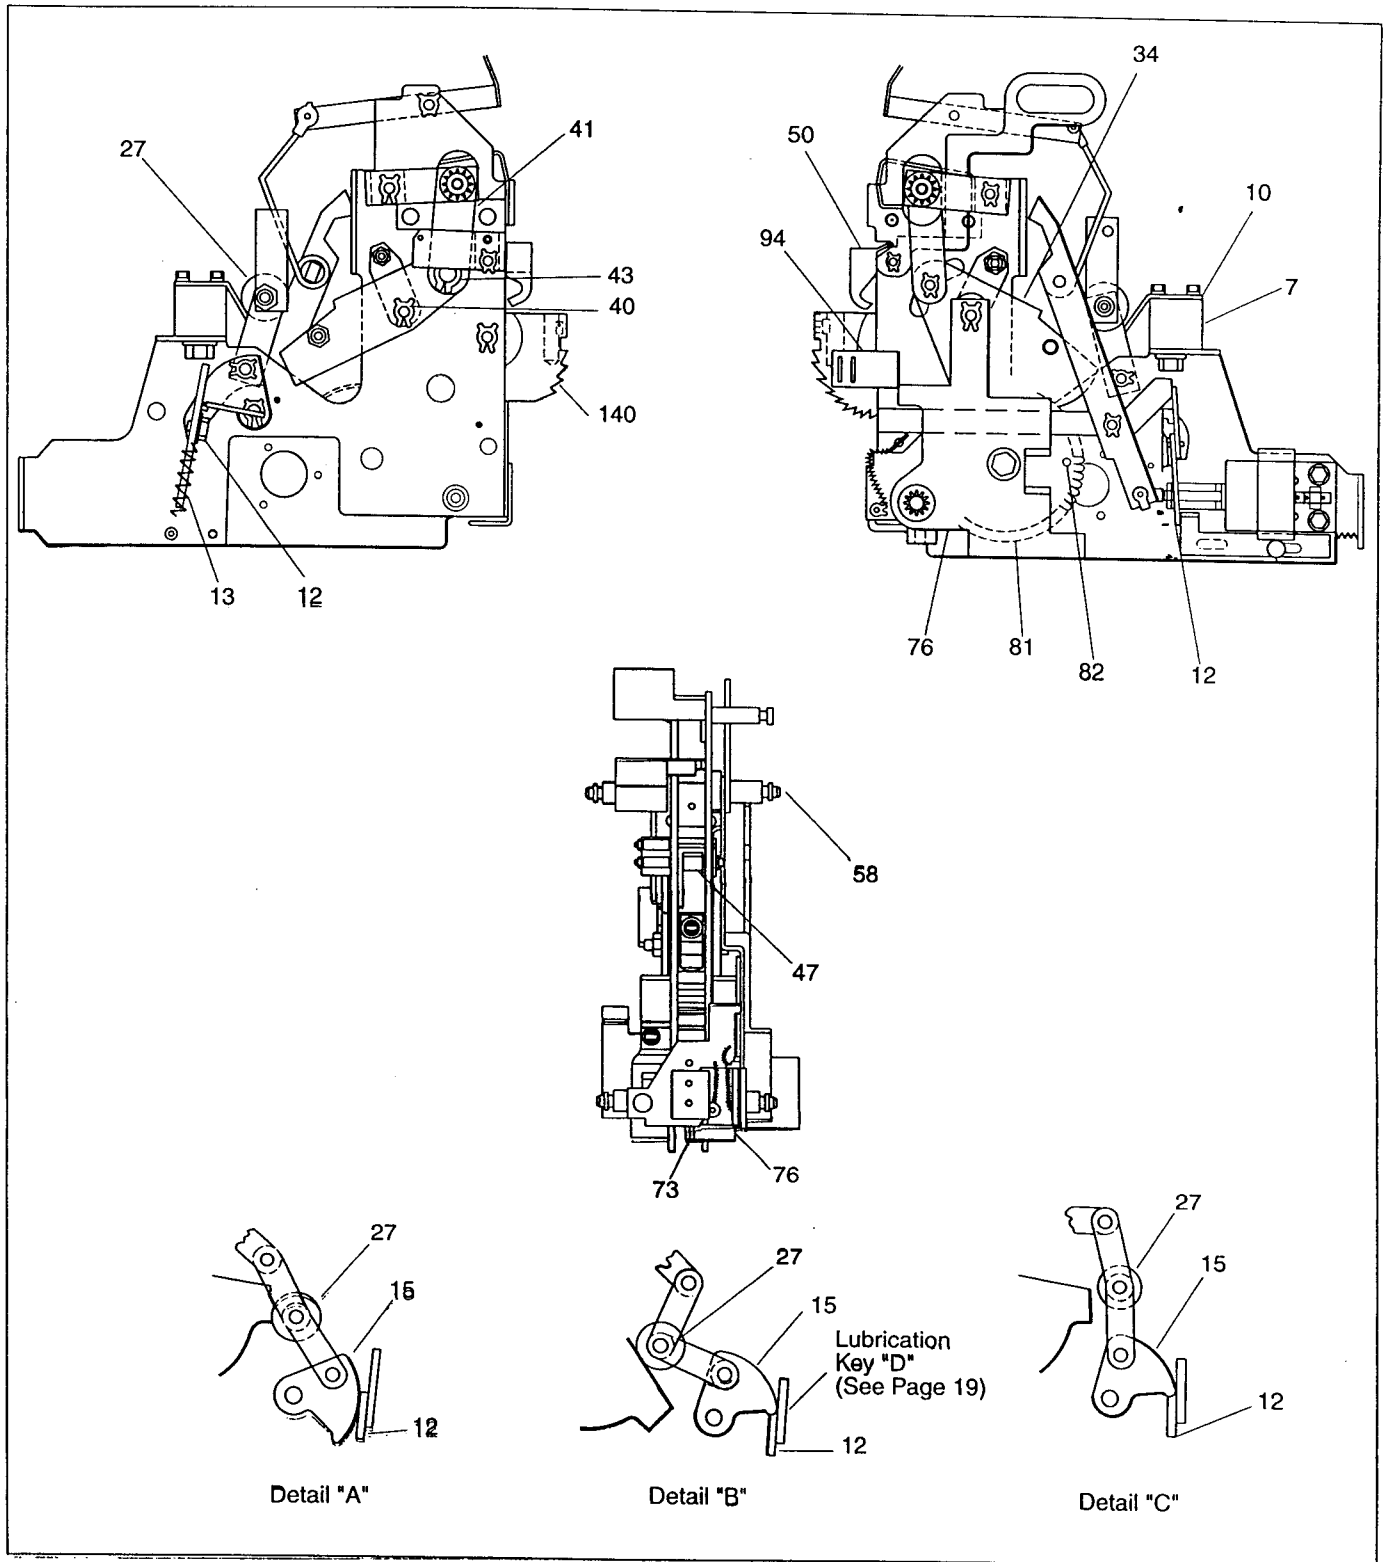

Figure 2. Circuit Breaker Operator
The breaker has a center-mounted frame, so many of the latches and links are arranged in pairs. For descriptive purposes, they will be referred to as single items. Refer to **Figure 2** and **Table 1**. Detail A shows the position of the trip latch and toggle linkage when the circuit breaker is open and the closing springs are discharged.
The mechanism of the electrically operated circuit breaker is the same as the manually operated circuit breaker, except that the manual charging handle is replaced by a motor and gear system. Refer to **Figure 2** and **Table 2**. Power available to the control circuit will start the automatic charging cycle. The motor gear box pinion rotates gear (81) counterclockwise. Cam follower (82) engages an arm of wind and close cam (34), which rotates the cams in the same manner as for the manually charged circuit breaker. When the wind and close cam (34) reaches its charged position, the back of the cam engages switch lever (73), rotating the lever away from the switch operator. Gear switch lever (76) will still be holding the switch in the operate position and the motor will continue to run until the roll pins on the side of gear (81) lift lever (76) clear. This releases the motor cutoff switch (MCO). When the MCO switch opens, the motor stops, and the closing coil circuit is set up through one side of the MCO switch.